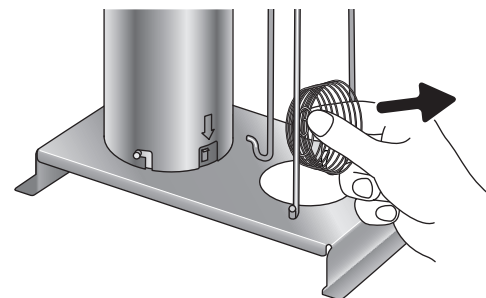

Fig. 6: Removing the springs
4. If necessary, compress the spring which forms the 'sausage cage' and remove it as shown (fig. 6).